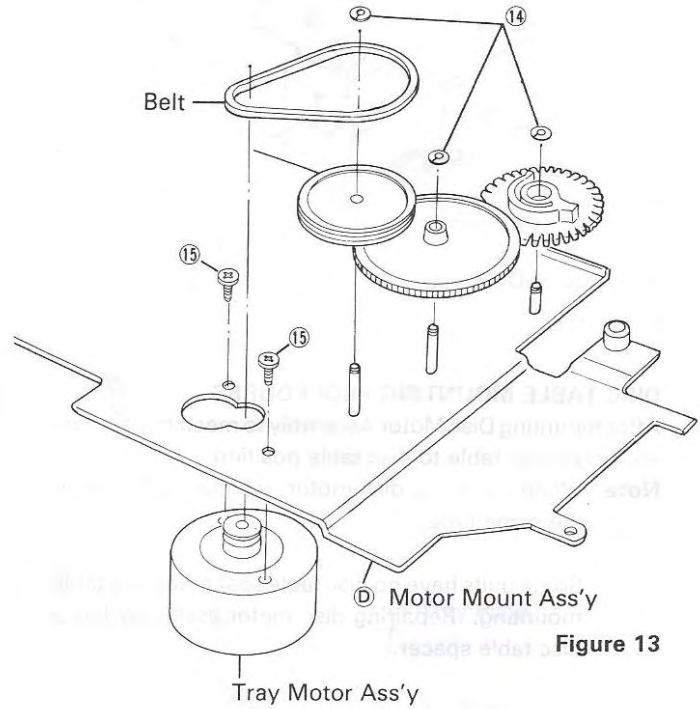

Figure 13
2. Remove two screws ⑮, and tray motor assembly will be removed. (Figure 13)